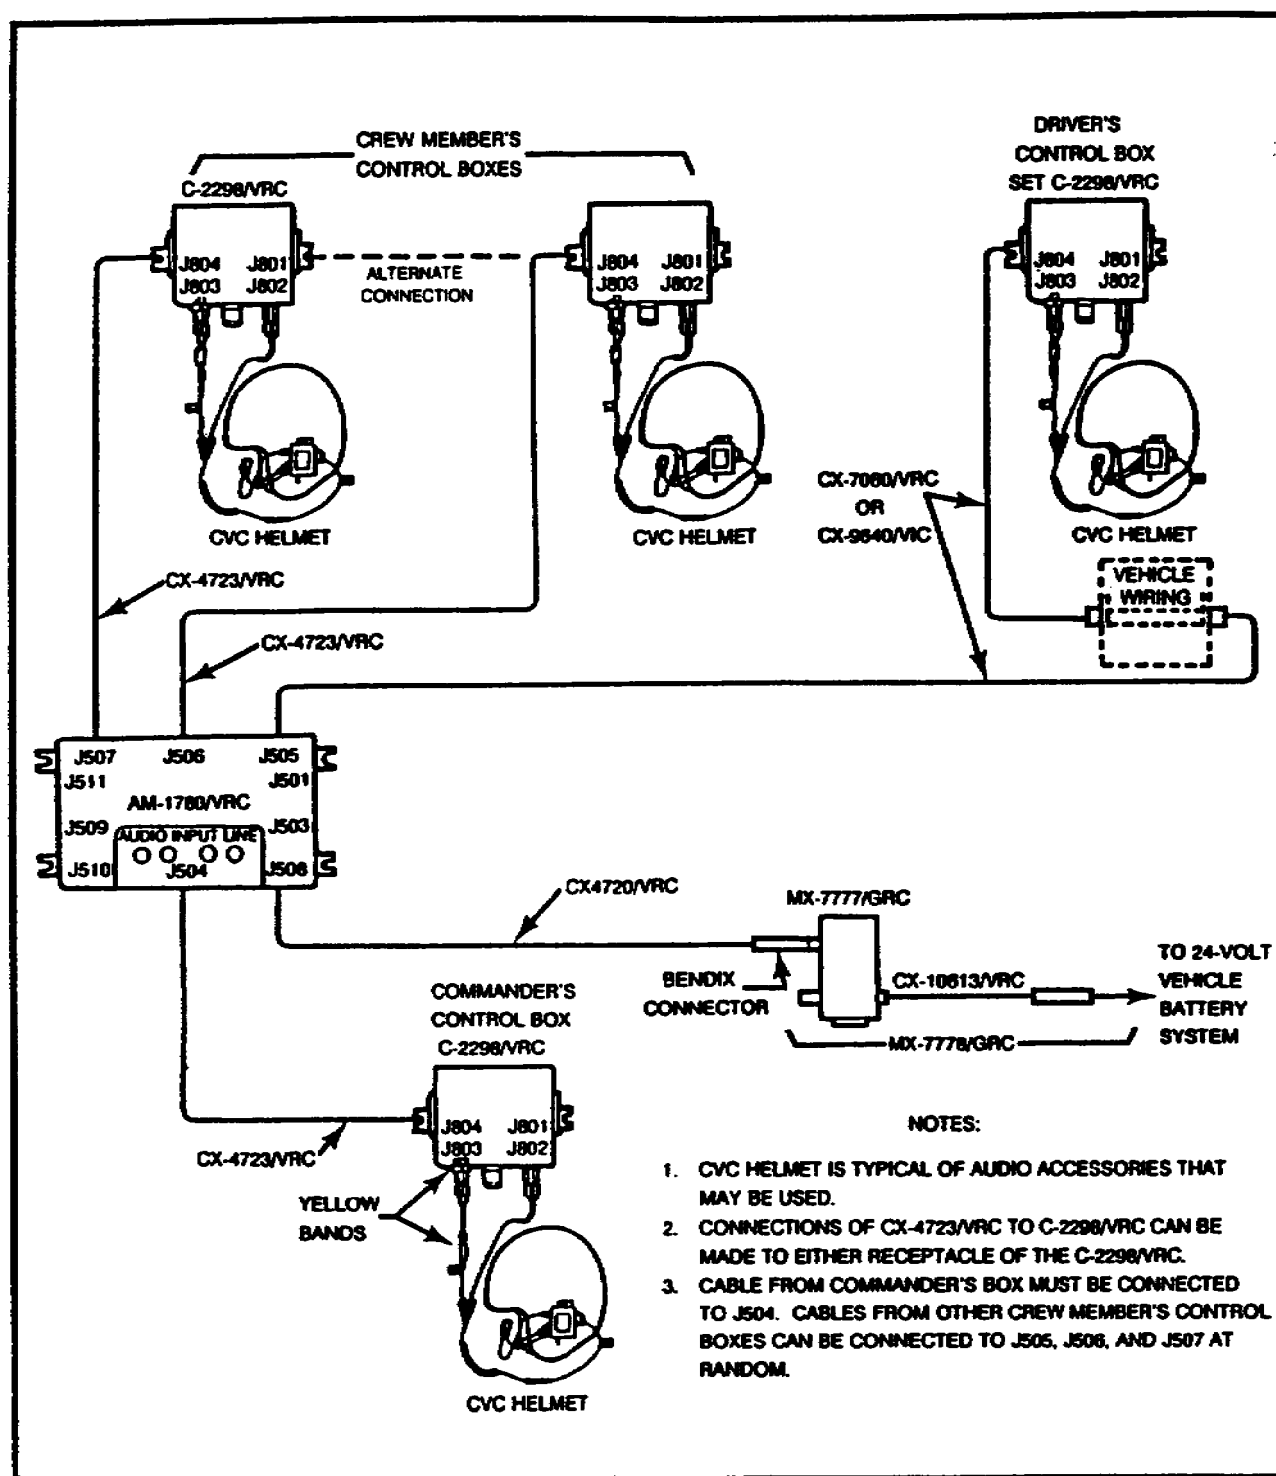

Figure 1. Typical AN/VIC-1(V) without FM radio.
1. INTRODUCTION. An operational check (op check) is normally done with the intercommunication set AN/VIC-1(V) installed in a vehicle. As a minimum, the op check is done as part of the PMCS. At the discretion of the maintenance supervisor, the op check could be done more often than the scheduled PMCS. After every repair of an item of equipment, the portion of the op check that applies to that item of equipment should be done again to ensure that the fault found has been corrected and that no other faults exist.
a. The intercommunication set AN/VIC-1(V) provides voice communications between crew members and also allows crew members to control and use the radio set that is installed with some systems.
e. See Figure 1. The intercom set AN/VIC-1(V) is a highly versatile piece of equipment that can be used alone or with FM radios.